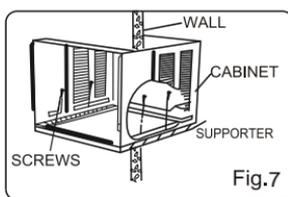

Fig.7
- When need to drain off water, install the drain plug on the Chassis board. Then fix the cabinet on the supporter (provide for yourself or contact the dealer)(see Fig.7).